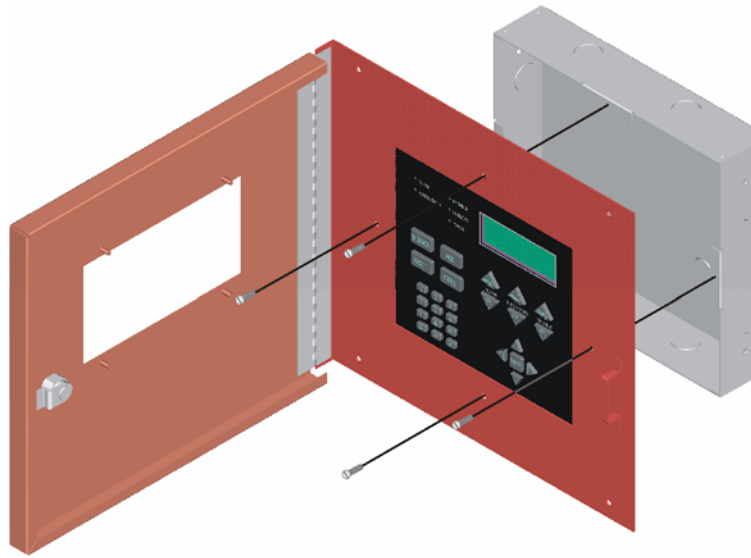

Figure 4-11 Attaching Annunciator/Door Assembly to Backbox
- Attach the annunciator and door assembly to back box as shown in Figure 4-11 using the supplied screws.